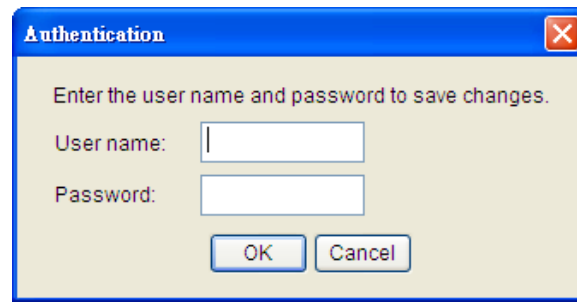

Figure 3. The authentication window.
7. You will need to enter a User Name and Password for the Remote Management Card (Figure 3) in the authentication window, as shown in figure 3. *Default user name: cyber; Default password: cyber